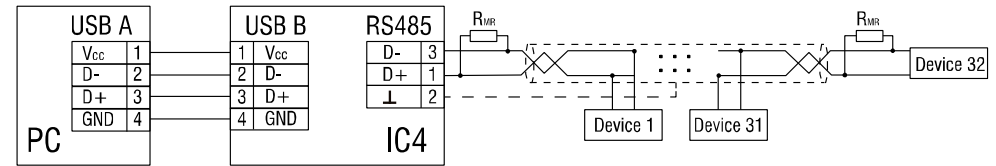

Fig. 2 Wiring
- RS485 terminals (see Fig. 2)
The device should be connected according to the diagram shown in the Fig. 2: